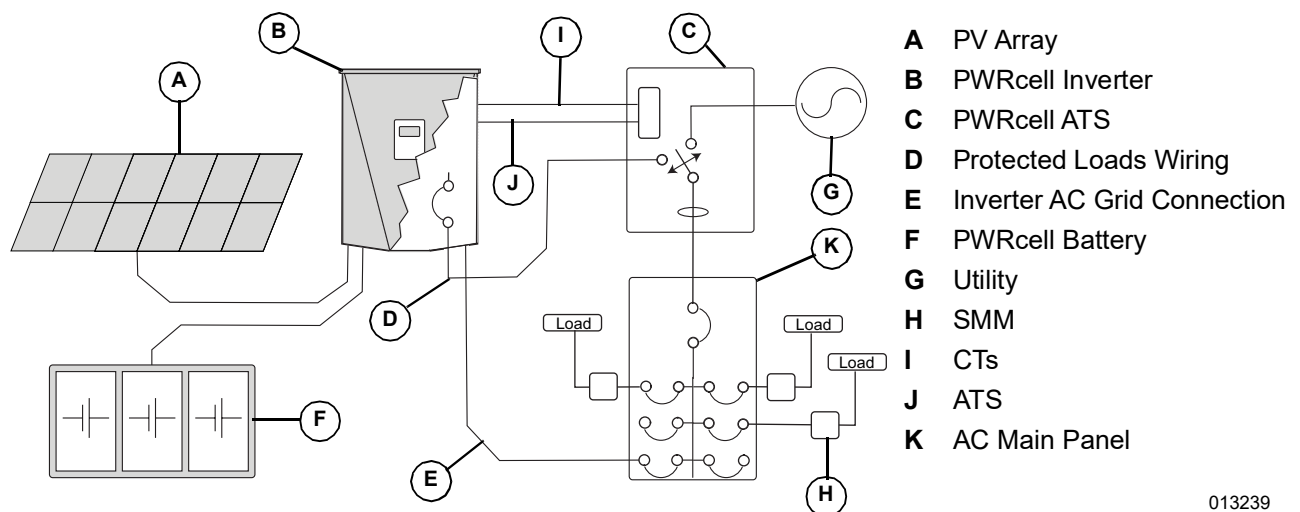

Figure 5-10. Whole Home Backup
1. See Figure 5-10. Land service entrance conductors at the 'N' terminals of the PWRcell ATS.